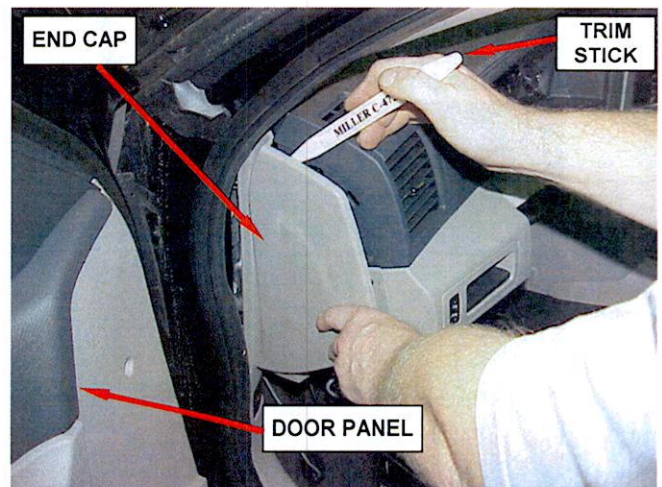

Figure 1 – Driver Side Shown
3. Remove the right and left instrument panel end caps (Figure 1).
43. Install the passenger side end cap (Figure 1).
48. Install the driver side instrument panel end cap (Figure 1).